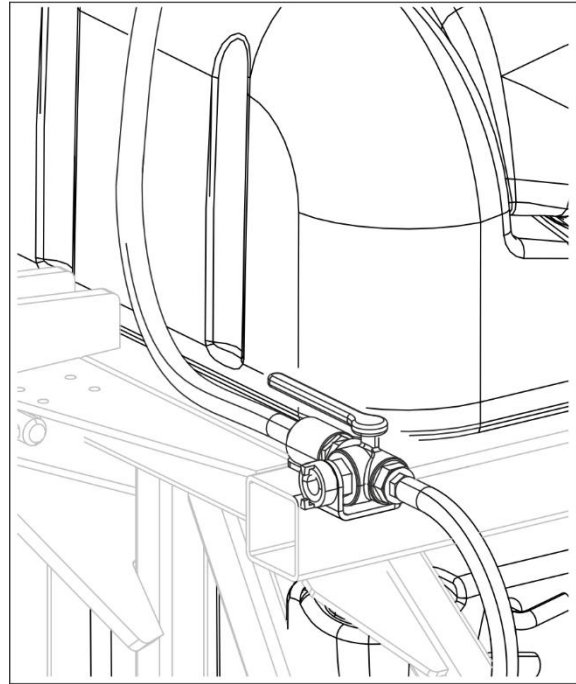

Figure27 : Three-way valve to the spray tank
5. Switch the three-way valve to the spray tank, see figure 27.